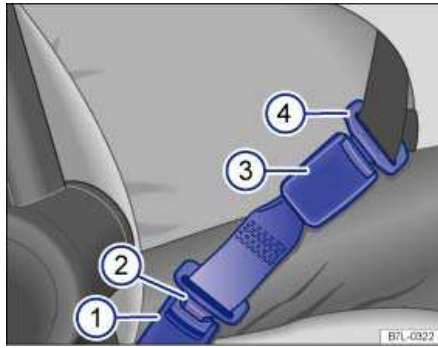

Fig. 70 A safety belt extender properly attached to the factory-installed safety belt.
Key to fig. 70:
- Insert the buckle tongue on the safety belt extender ⇒ fig. 70 \(2\) into the vehicle belt buckle for the seat where the safety belt extender is being used \(1\).